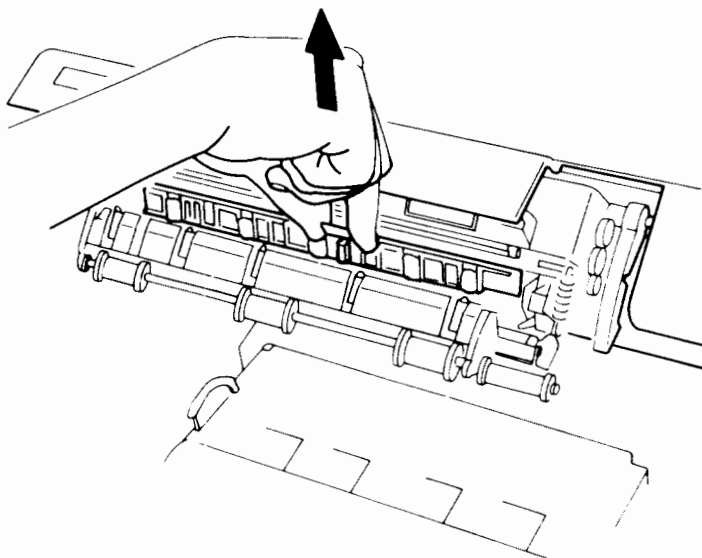

Figure 7-6 Removing the heat roller cleaning pad
3. Remove the old cleaning pad by lifting the plastic tab at the center, as shown in Figure 7-6. The old pad can be discarded.